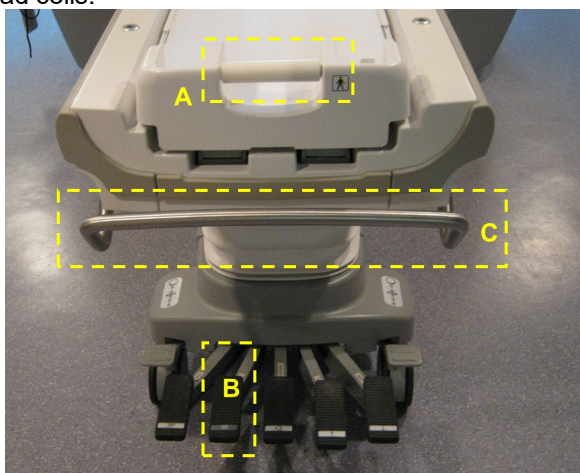

Figure 7. Position of cradle as seen on any of the
- 10) Detach the cradle from the Dog House by twisting the release handle at the end of the cradle. ("A" in Fig 7)
- 12) Undock the patient table by pressing down on the foot pedal ("B" in Fig. 7). If the table fails to undock see appendix 2 for troubleshooting tips.
- 13) Move the table out of the way using handle ("C" in Fig. 7) by pulling straight back from the magnet bore, next to cabinet with head coils.